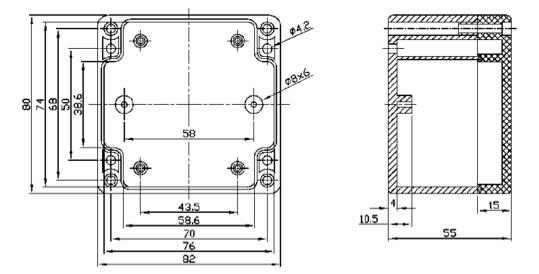

Figure 3 Sealed Polycarbonate Enclosures 82 x 80 x 55mm details. Designed to IP65 of IEC 529 and NEMA 4
- Sealed Polycarbonate Enclosures 82 x 80 x 55mm from JAYCAT Cat. No. HB-6230. See Fig 3 for details